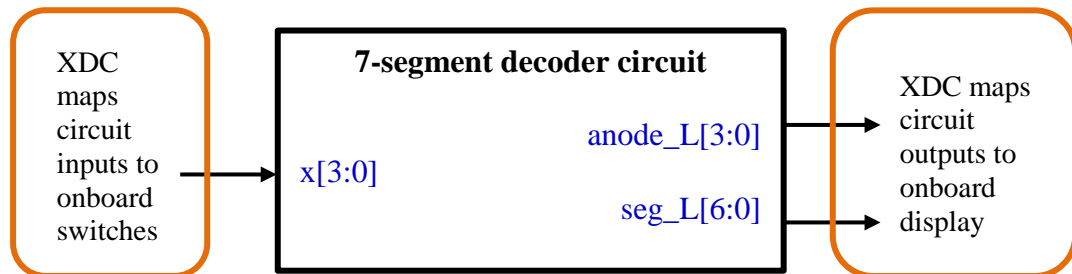

Figure 3: XDC file maps circuit I/O to onboard switches and display
- 5.4.2 To see the physical effect of your decoder circuit, you will make use of the onboard switches and 7-segment display. Figure 3 illustrates how the decoder inputs/outputs (I/O) are mapped to the switches and display. The exact mappings are specified by the constraints file *vsevenseg.xdc*.